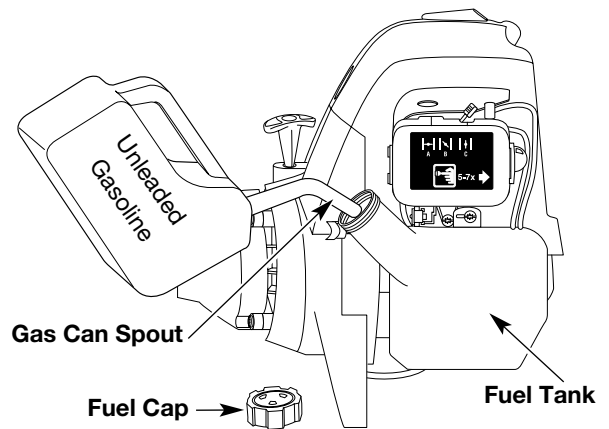

Fig. 20
1. Remove fuel cap (Fig. 20).
2. Place spout of gas container into the fill hole on the fuel tank (Fig. 20) and fill tank.